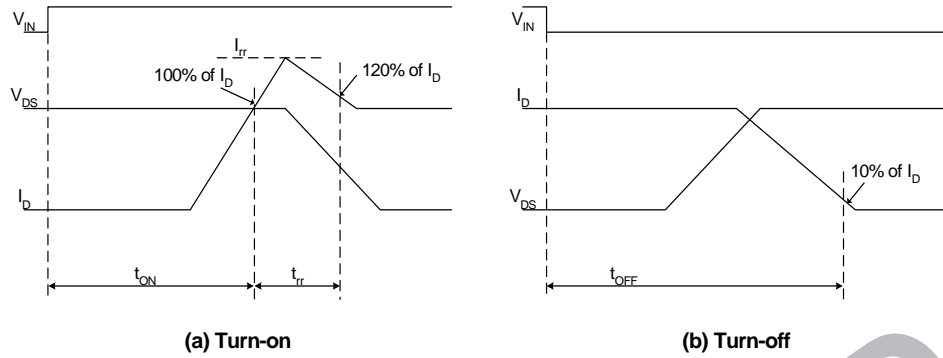
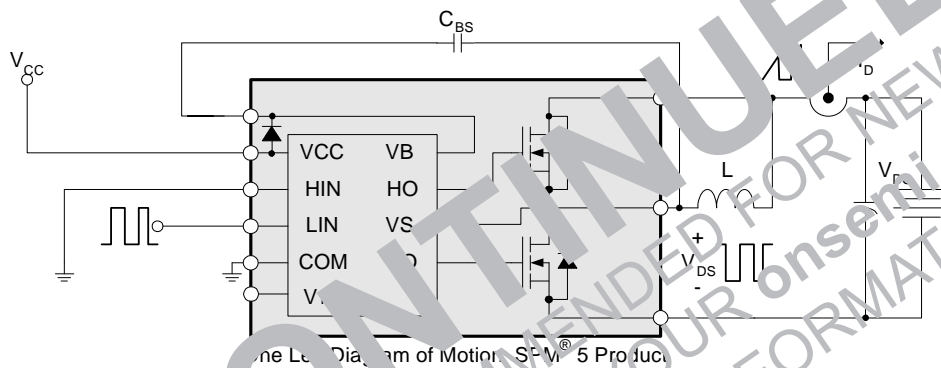

Figure 6. Switching Time Definitions
Figure 7. Switching and RDSOA (Single-pulse) Test Circuit (Low-side)
- t_{ON} and t_{OFF} include the propagation delay of the internal drive IC. Listed values are measured at the laboratory test condition, and they can be different according to the field applications due to the effect of different printed circuit boards and wirings. Please see Figure 6 for the switching time definition with the switching test circuit of Figure 7.
- The peak current and voltage of each MOSFET during the switching operation should be included in the Safe Operating Area (SOA). Please see Figure 7 for the RBSOA test circuit that is same as the switching test circuit.